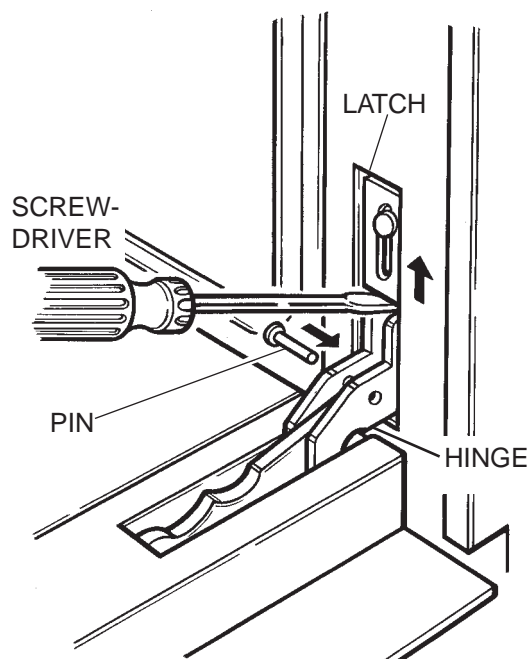

Figure 16 - Removing the oven door
2. Insert the pins (supplied) into the pin-holes, on both hinges. (Figure 16)
3. Push up the latches with a screwdriver. (Figure 16)